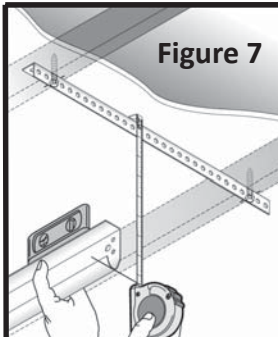
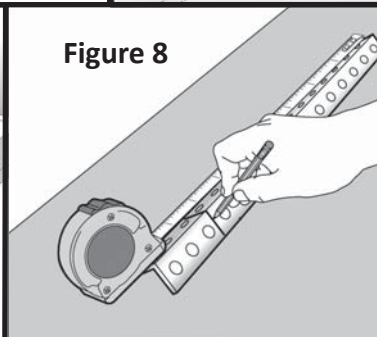
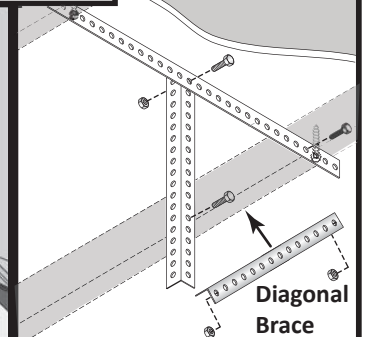

Figure 7
Figure 8
Figure 10
Step 3: Mark and cut a piece of angle to span the distance between the ceiling joists/beams plus 4" (Figure 8 & 9).
Step 5: Measure the distance from the bottom of the Horizontal Track to the top of the angle (Figure 7). Mark and cut a piece of angle this distance (Figure 8 & 9).
Step 6: Mark and cut a piece of angle to form a 45° brace (Figure 8, 9, & 10). This piece should be about the same length as the piece in Step 5. Securely fasten the Back Hanger Angles using (3) 3/8"x1-1/2" Machine Bolts and (3) 3/8"-16 Hex Nuts as shown in Figure 10.